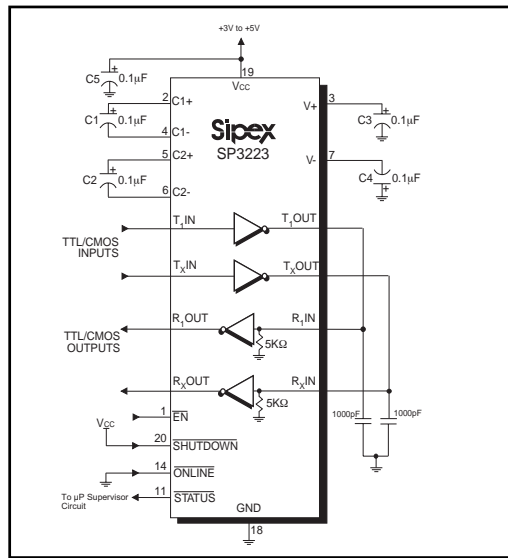
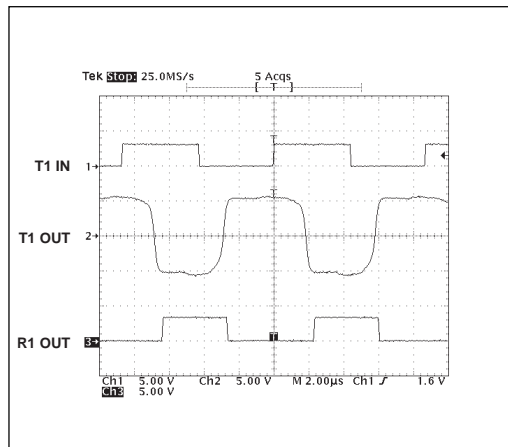

Figure 12. Loopback Test Circuit for RS-232 Driver Data Transmission Rates
Figure 13. Loopback Test Circuit result at 235Kbps (All Drivers Fully Loaded)
*Figure 12* shows a loopback test circuit used to test the RS-232 Drivers. *Figure 13* shows the test results where one driver was active at 235Kbps and all drivers are loaded with an RS-232 receiver in parallel with a 1000pF capacitor. RS-232 data transmission rate of 120Kbps to 1Mbps. provide compatibility with designs in personal computer peripherals and LAN applications.